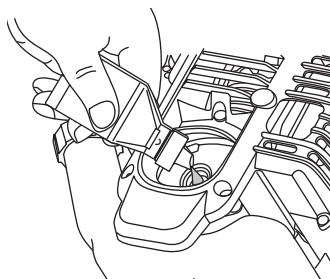

Fig. 5
4. Pour the entire bottle of oil into the oil fill hole (Fig. 5).